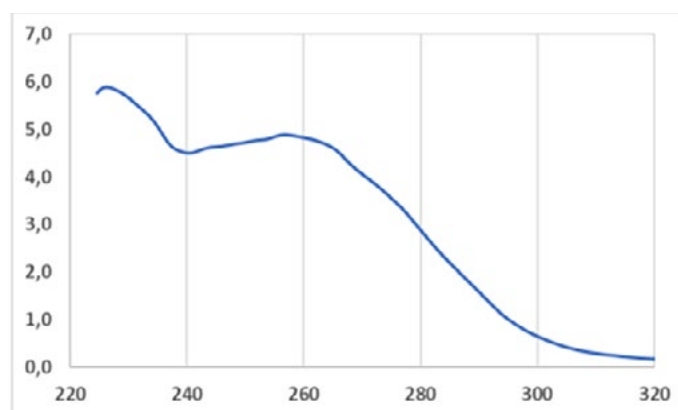

Figure 6: Typical spectra of a DNA sample contaminated with protein
- Phenol/Trizol and protein contamination also produce a shift of the valley at 230 nm, but also of the peak at 260 nm, towards longer wavelengths. (Figure 6)